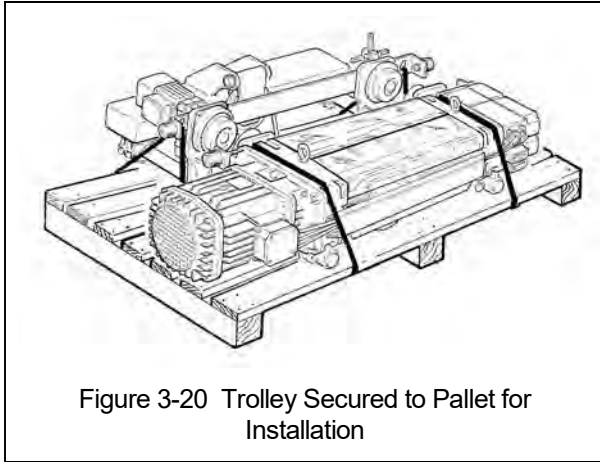

Figure 3-20 Trolley Secured to Pallet for Installation
- 2) Install any additional devices, if any (power supply cords or pendants, for instance – see Section 3.5) onto the trolley hoist. If the trolley hoist is not secured to a pallet, place and secure it to one making sure that the trolley hoist is completely stable (see Figure 3-20).